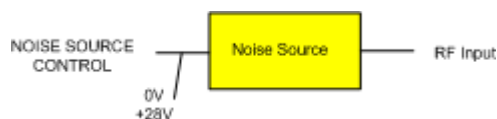

Fig. 4-1: Preparation for calibration
- Connect the noise source to the RF input of the R&S FSV (see figure 4-1).